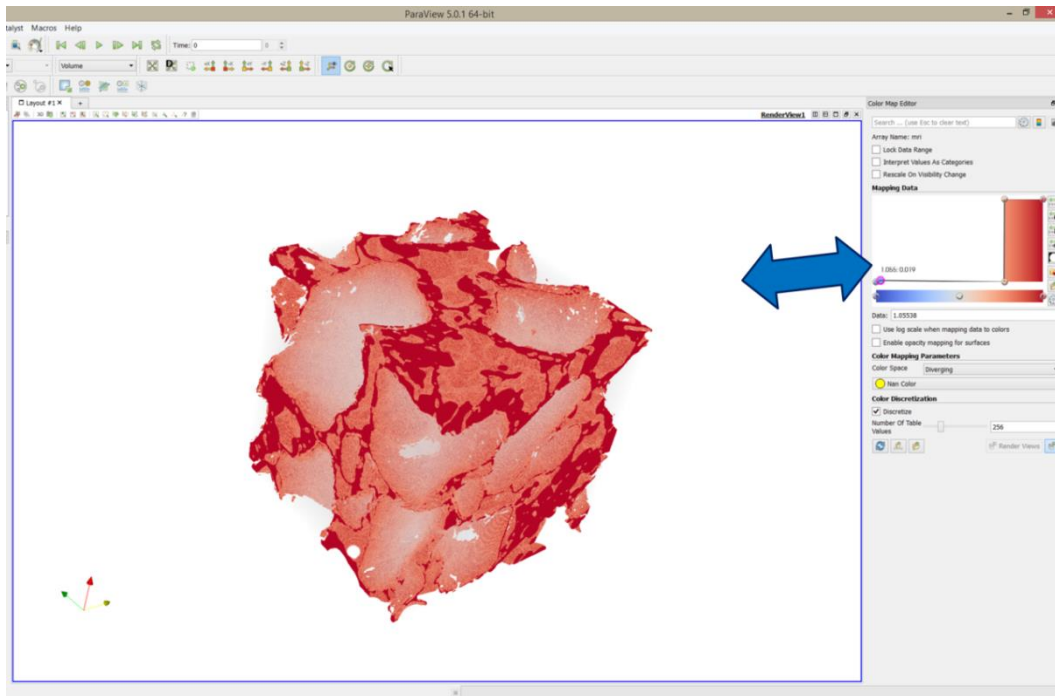

Figure 55: Hydrate volume in ParaView
- Figure 55: The **gas-hydrate phase** is extracted by **maximizing the red phase** and **flattening the other phases**.